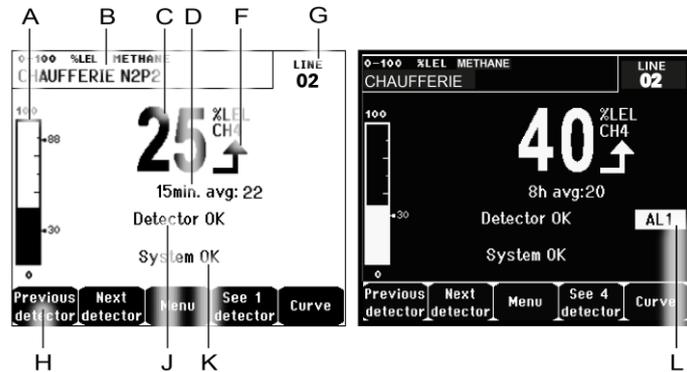
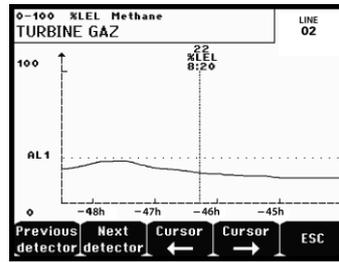

Figure 35: Example of the measurement display in normal mode and in grayscale mode
Figure 36: Example of a curve display screen
H.	Function keys. <ul style="list-style-type: none"> ■ Previous detector: Display of measurements of previous detector; scanning of all the detectors on all the lines. ■ Next detector: Display of measurements of next detector; scanning of all the detectors on all the lines. ■ Menu: Display of main menu See paragraph "Main menu" on page 35. ■ See 4 Detectors: Display of a group of 4 detectors (detector tag, barograph with indication of alarms, value of current measurement with unit and gas detected). Use the Page down or Page up keys to display all of the next 4 detectors; passage to the next zone is automatic. ■ See 8 Detectors: Display of a group of 8 detectors (detector tag, value of current measurement with unit and gas detected). Other buttons similar to the selection. See 4 detectors. ■ See 1 detector: Display in normal mode (Figure 35). ■ Curve: Display of the measurement curves of the last 10 days (Figure 36). The → and ← keys allow cursor displacement through the time scale. The vertical dotted line displays the concentration and time stamp of the point being considered. Escape: return to display of values.
- L. Zone of indication of activated alarms with blinking threshold display. The screen changes to inverse video (Figure 35).